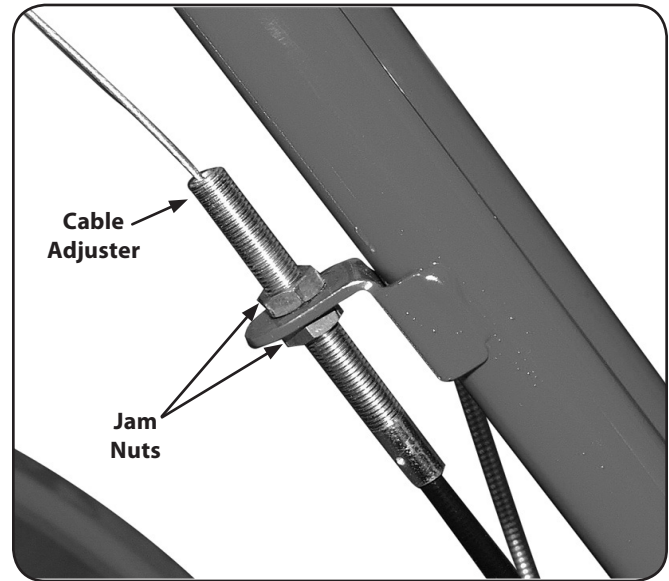

Figure 6-6
2. Belt adjustments are done with the forward clutch cable adjuster. Use two ½", open-end wrenches to loosen the two jam nuts a few turns. See Fig. 6-6